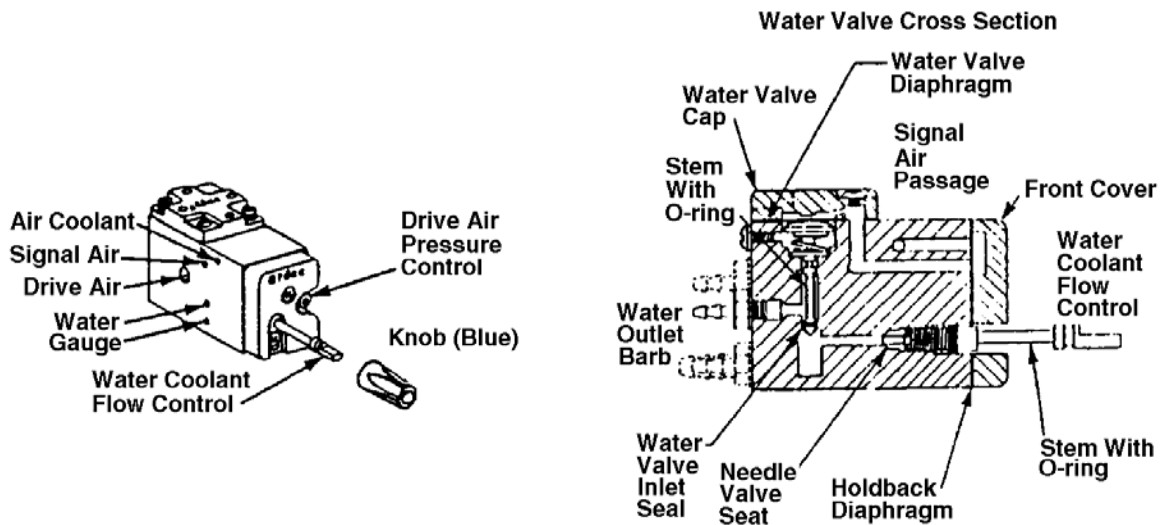

Figure 4-3. Control blocks.
b. **Control Blocks.** The control block, in both the automatic and manual systems, controls the routing of air and water coolant and drive air to the handpieces. The control blocks are used in conjunction with the master block and either a manual selector valve or a set of automatic handpiece hangers, to make a complete control system. Refer to figure 4-3.
(1) Each of the control blocks has laterally drilled passages for drive air, water coolant, air coolant/chip blower, and signal air. These passages line up with the outlet passages in the end of the master block.